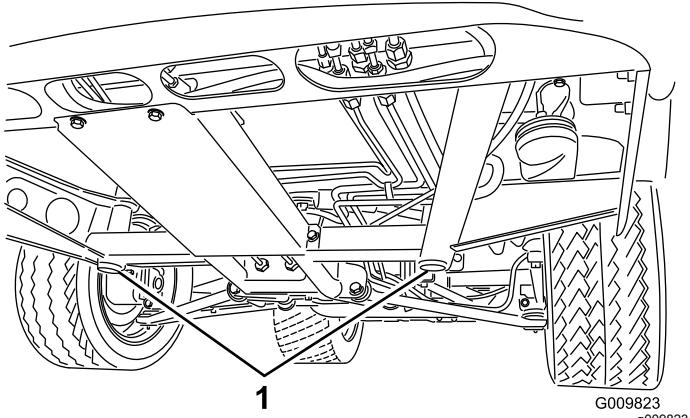
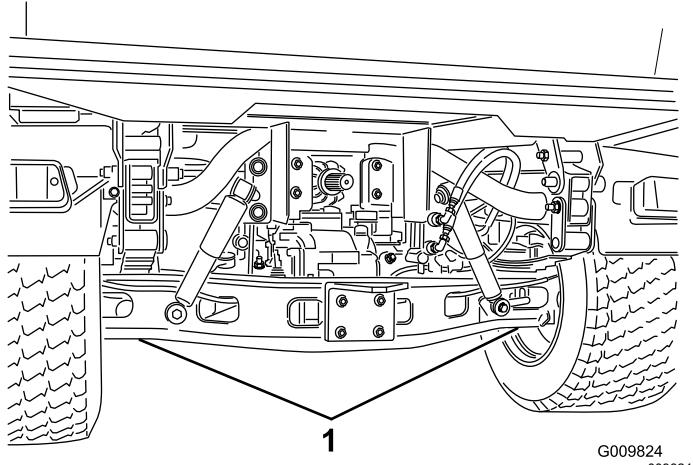

Figure 36
Figure 37
- The jacking point at the front of the machine is under the front center frame support (Figure 36) and at the rear it is under the axle (Figure 37).